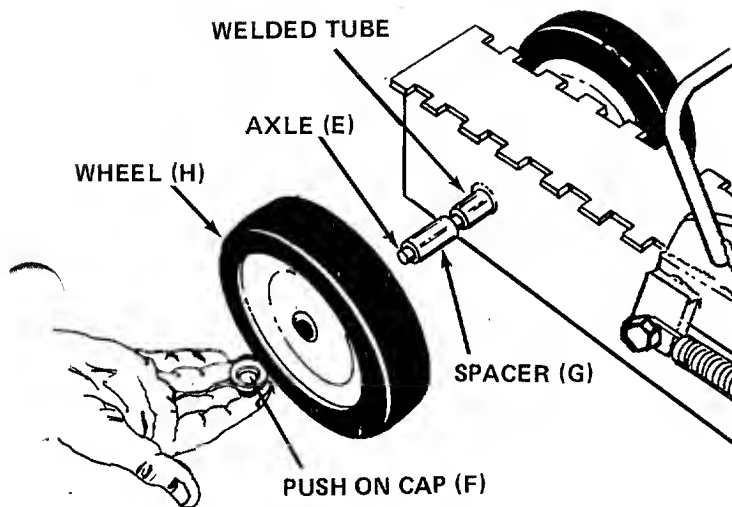

FIGURE 2
2. Place the axle (E) through the welded tube on splitter. See figure 2.
3. Next, place spacers (G) on each side of splitter, over axle. See figure 2.
5. Secure wheels to axle with push on caps (F). A hammer and block of wood will be required to hammer on the caps. See figures 2 and 3.